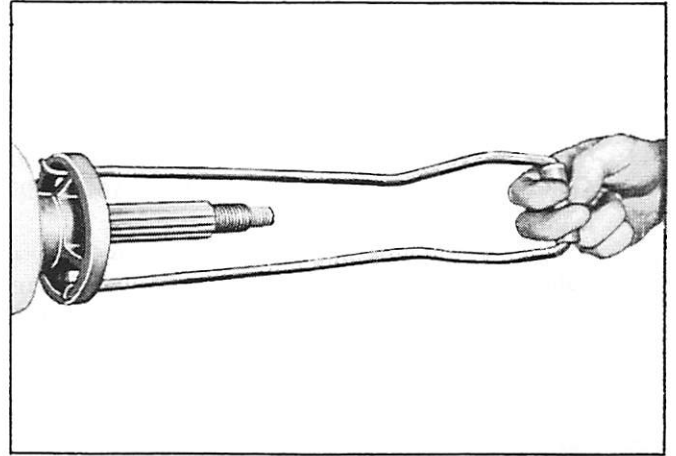

Figure 2. Removing Bearing Carrier Assembly
9. Remove bearing carrier assembly and sealing sleeve with 91-27780 tool. (Figure 2)